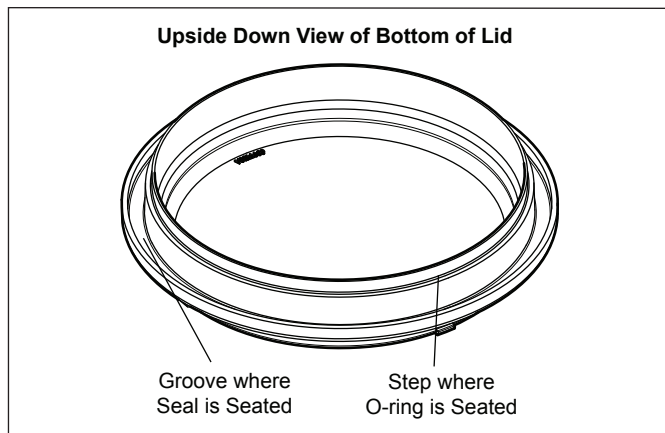

Figure 5. Placement of Blue Pressure Test O-ring
2. Place the blue o-ring on the step located $\frac{1}{4}$ " from the bottom of the lid. See Figure 5.
NOTE The blue o-ring sits approximately $\frac{1}{4}$ " away from the seal. See Figure 5.